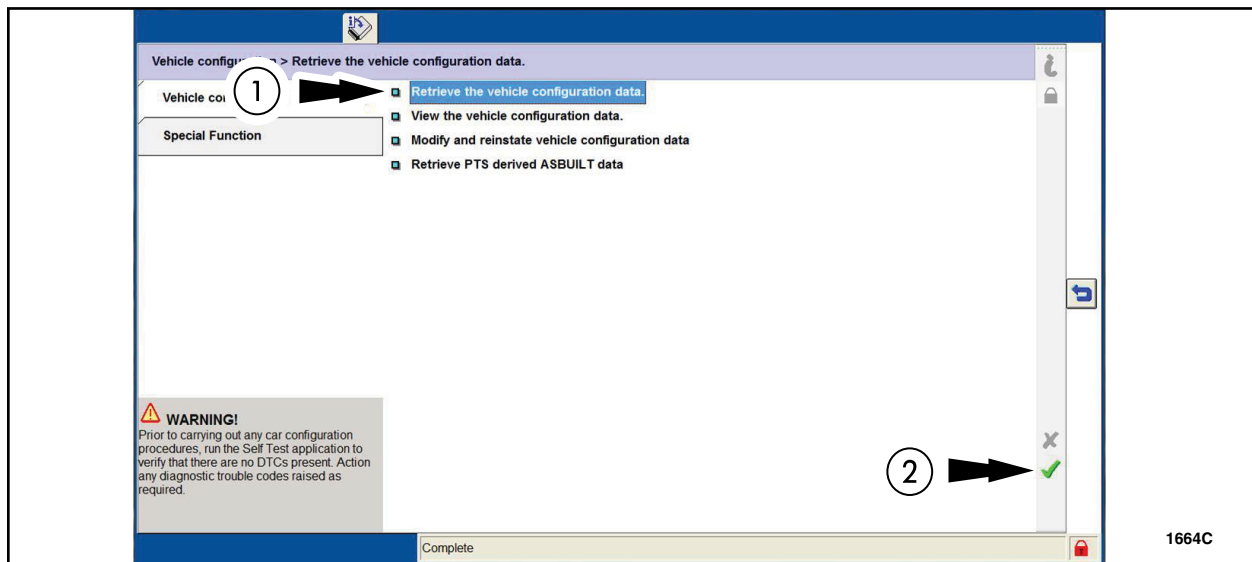

FIGURE 10
2. Using IDS, return to Car Configuration Parameters (from the Module Programming menu, select Programmable Parameters > Car Configuration Parameters). Select Retrieve the vehicle configuration data (1) and then click the tick mark (2). See Figure 10.